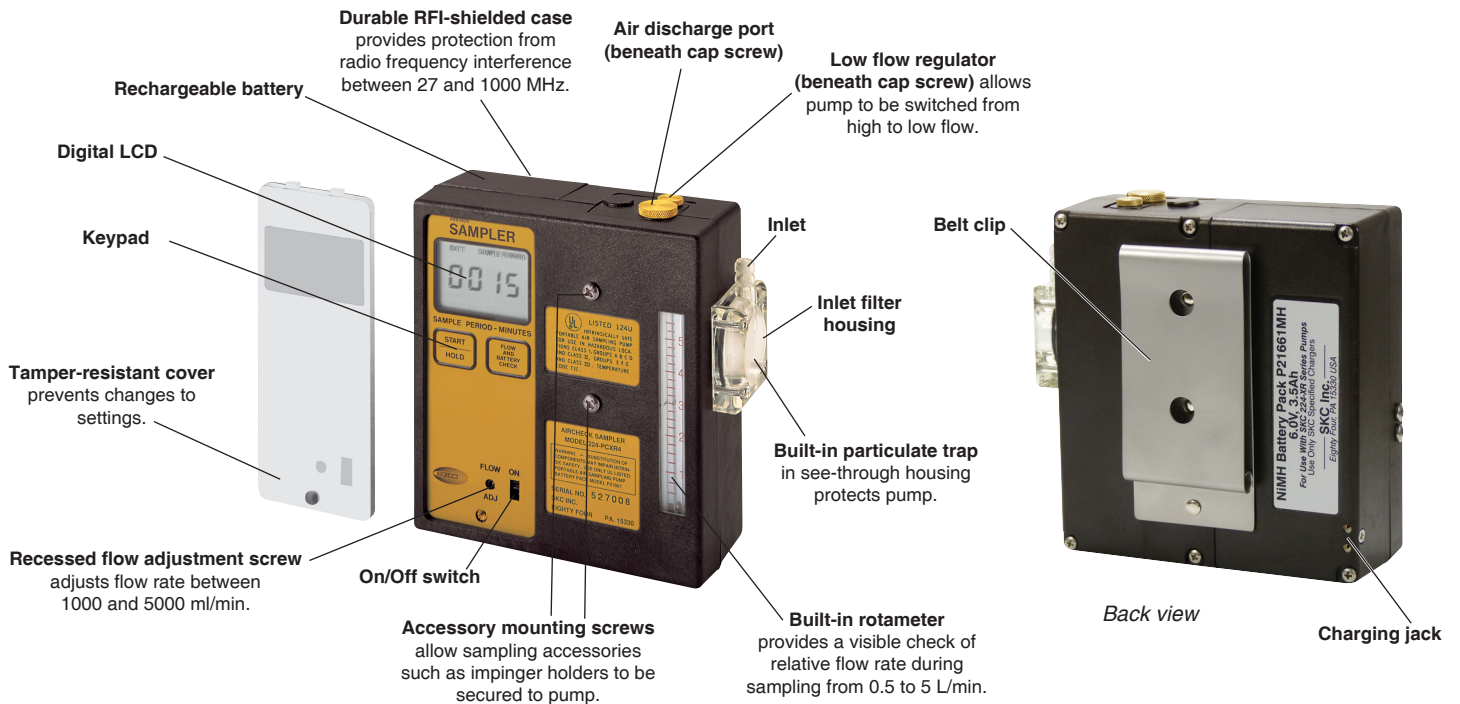

Figure 1. Front and Back Views of PCXR4 Universal Sample Pump
The PCXR4 Universal Sample Pump (Figure 1) is a constant flow (from 5 to 5000 ml/min) air sampler suitable for a broad range of applications. It is ideal for industrial hygiene studies as well as environmental testing.
3. Insert the charging plug end of the cable into the jack on the back of the pump's battery pack (Figure 1).
Turn Pump Power On/Off (Figure 1)
1. To ensure the pump is set for high flow, remove the cap screw (*Figure 1*) covering the regulator valve and turn the exposed screw **clockwise** until it stops. Do not overtighten. *See right.*
7. Set the flow rate using the flow adjustment screw (*Figure 1*) until the calibrator indicates the method-specified flow rate. Take a minimum of three readings and record the average flow rate, as per OSHA/NIOSH instructions.
- b. **When using impingers**, an in-line trap SKC Cat. No. 225-22 or 225-22-01 is required to prevent fumes from accidentally being drawn into the sampler. Place the in-line trap between the pump and the impinger. Mount the impinger and trap to the face of the sampler using the accessory mounting screws (Figure 1) or place them in a holster at the worker's waist.
3. With the LCD displaying HOLD, start sampling by pressing Start/Hold (Figure 1). SAMPLE RUNNING will be displayed. Record the start time. The elapsed sampling time will be shown on the LCD.